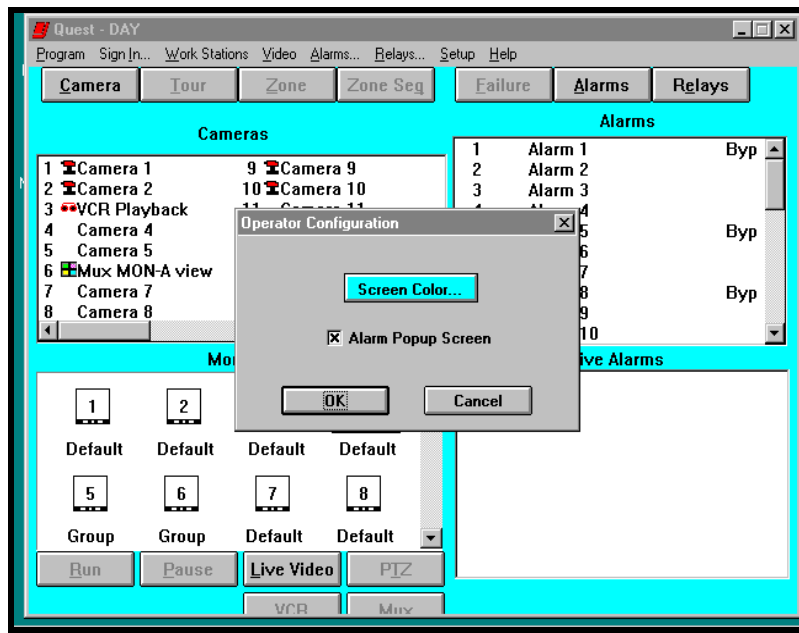

Figure 3-28. Operator Configuration Screen
There are two functions that an operator can select without signing on to the system: (1) change the background color and (2) activate the automatic alarm pop up screen. Figure 3-28 illustrates the operator configuration screen.